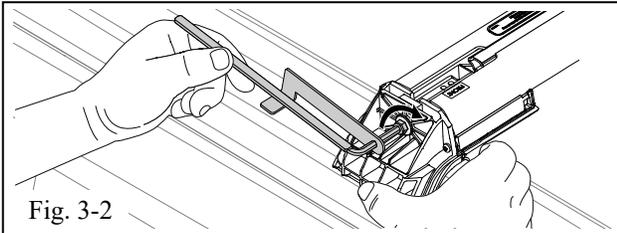

Fig. 3-2
- (b) Use one hand to hold the clamp closed as you tighten the bolt. Using a VDC approved wrench or provided torque wrench, tighten the bolt until the wrench indicates 14 Nm of torque (Fig. 3-2). If using supplied torque wrench, the bolt is fully torqued when the metal handle touches the torque indicator as shown. (Fig. 3-3).